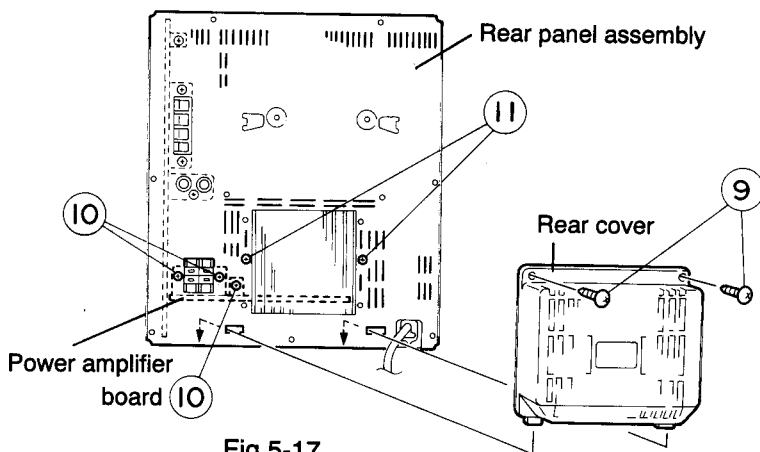

Fig.5-17
6. Remove the two screws ⑨ fastening the rear cover to the rear panel assembly and then remove the rear cover. (See Fig. 5-17)
7. Remove the five screws (⑩ x 3, ⑪ x 2) fastening the power amplifier board to the rear panel assembly. (See Fig. 5-17)